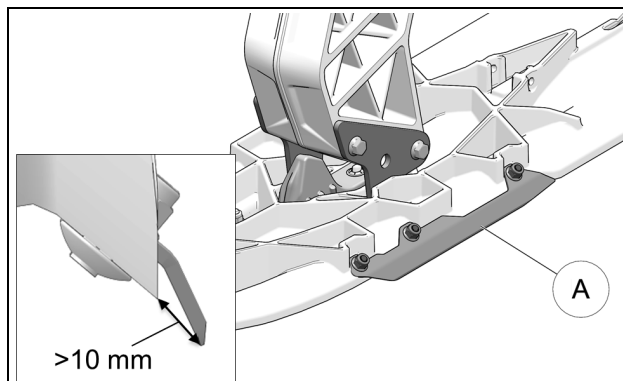

Figure 39
Verify Side runners (A) mounted on the ski. If they show flat spots bigger than 1 mm along the edge, they should be re-sharpened. If the measurement between the edge of the ski and the edge of the runner is under 10 mm (13-14 mm when new), the part should be replaced. See Figure 39.